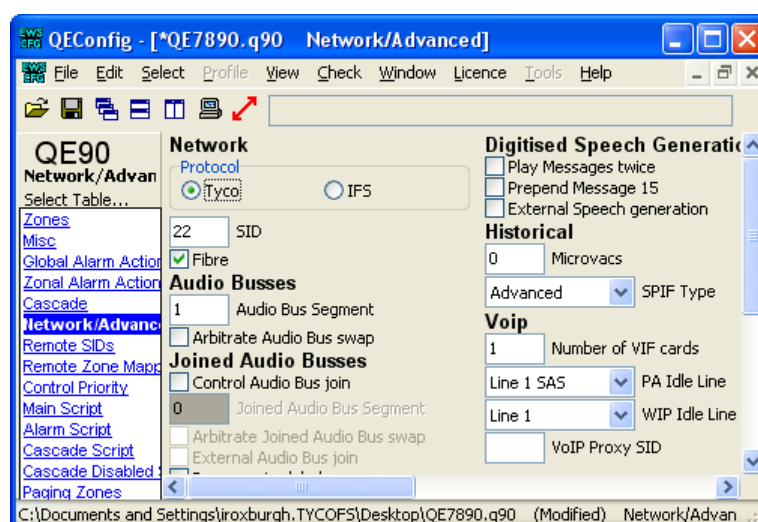

Figure 7 – QE90 Network / Advanced Configuration
See Figure 7 below for an example of the programming of the number of VIF cards.
See Figure 7 below for an example of the programming of the “Idle Lines”.
- Panels on a copper segment (other than the one that connects directly to IP) need to have the SID number of the panel that does connect directly to IP programmed in their “VoIP Proxy SID” field. Additionally, the “Number of VIF Cards” must be set to 0, and “PA Idle Line” and “WIP Idle Line” must be set to “VoIP not used”. Refer to Figure 7 below for the location of these settings.